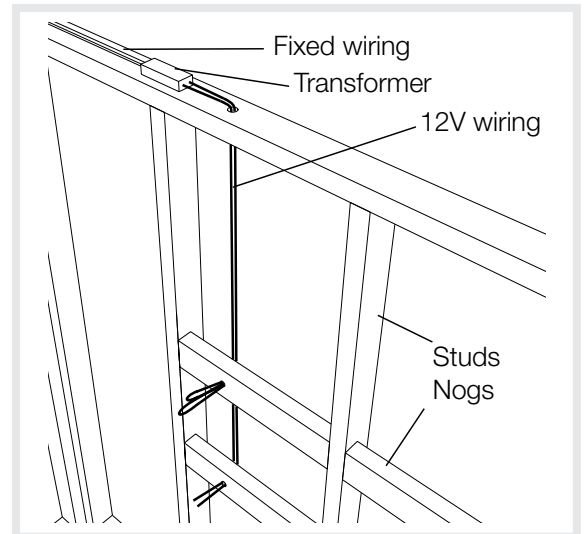

Figure 1.0
- Typical wiring for timber framed walls is shown in *Figure 1.0*
- Pull the supplied appliance wire through the 10mm holes as shown in *Figure 1.0* and connect to the 12V transformer (also supplied).